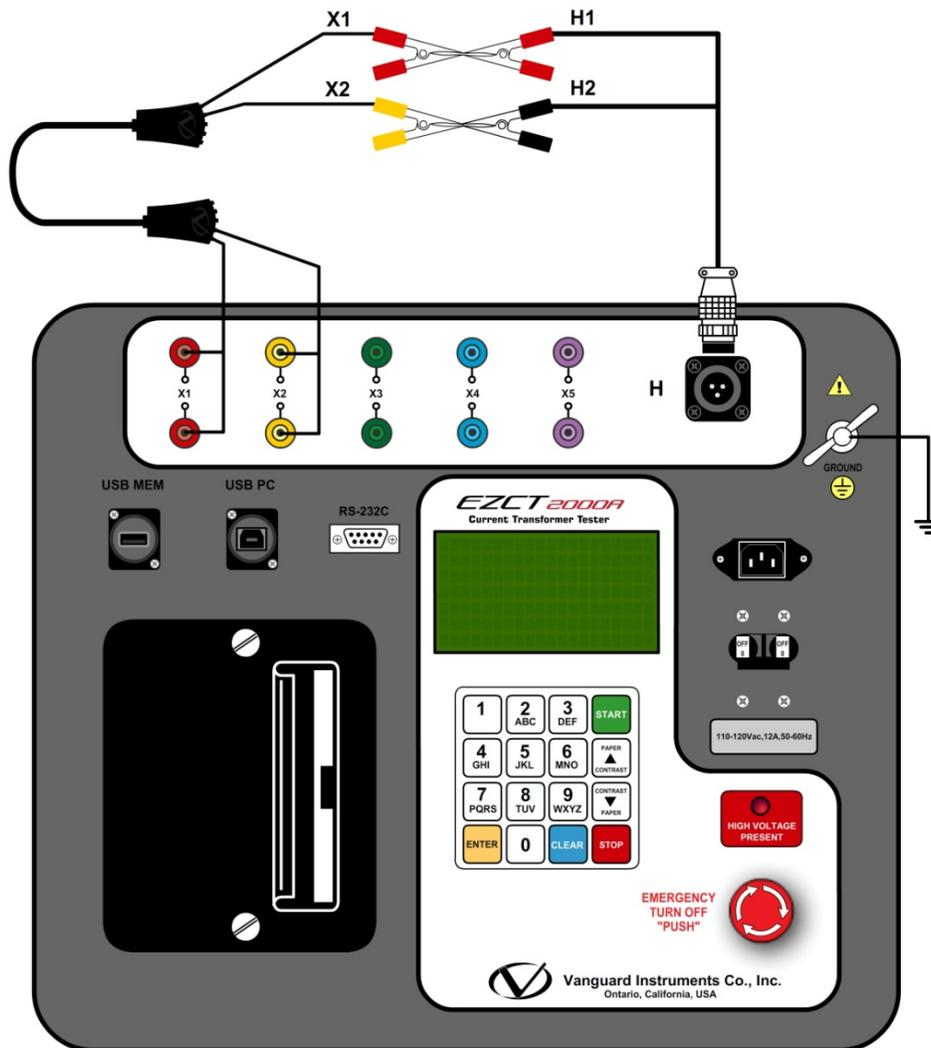

Figure 19. EZCT-2000A Turns Ratio Verification Test Connections
- Connect the X1 test lead to the H1 test lead as shown in Figure 19.
- Connect the X2 test lead to the H2 test lead as shown in Figure 19.